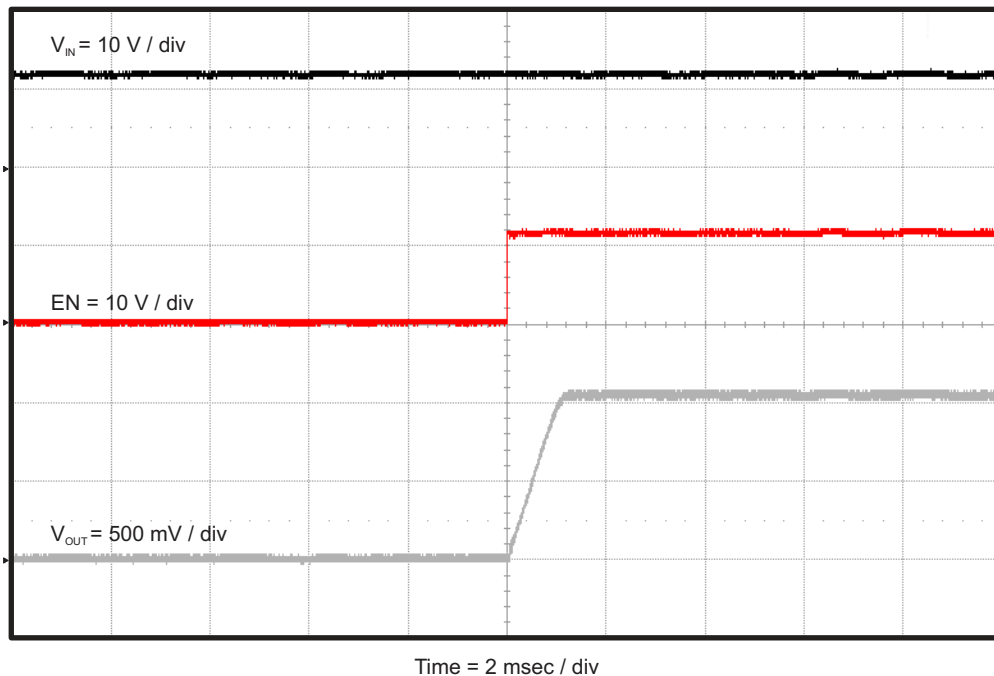

Figure 4-11. TPS562200EVM-601 Start-Up Relative to EN
The TPS562200EVM-601 start-up waveform relative to enable (EN) is shown in Figure 4-11. Load = 1 Ω resistive.